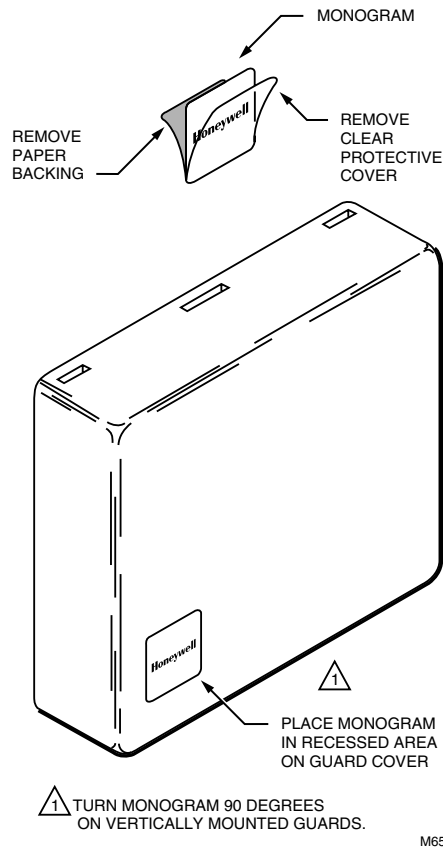

Fig. 9. Apply monogram to thermostat guard (TG510, TG511, TG512 shown).
- 7 Remove the paper backing and clear protective cover from the included monogram and place the monogram in the recessed area on the guard cover. See Fig. 9.
- 11 Remove the paper backing and clear protective cover from the included monogram and place the monogram in the recessed area on the guard cover. See Fig. 9.
- ⓫ Remove the paper backing and clear protective cover from the included monogram and place the monogram in the recessed area on the guard cover. See Fig. 9.
- ⓯ Remove the paper backing and clear protective cover from the included monogram and place the monogram in the recessed area on the guard cover. See Fig. 9.